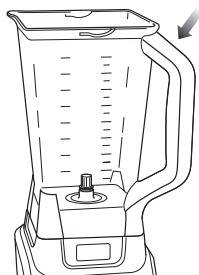
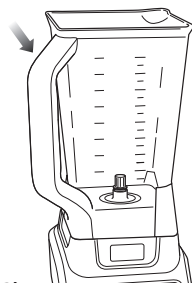

Fig. 3a
Fig. 3b
- 4 The pitcher can be placed on the motor base two ways; the handle can be on the front right corner or the front left corner. (**Fig. 3a, Fig. 3b**)